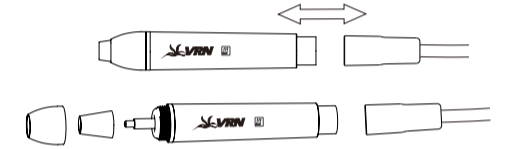

Figure 4
2.1.1 Instruction for main components of detachable handpiece (See figure 4)